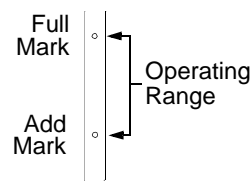
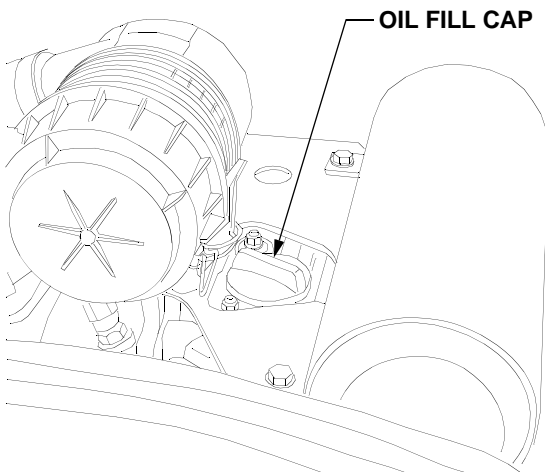

Figure 50
Figure 51
- Always keep the oil level between the full and the add marks on the dipstick. See Figure 50.
- Clean the area around the oil filler cap to prevent debris from entering the crankcase. See Figure 51.
- SLOWLY pour oil into the crankcase until the oil level reaches the “FULL” mark on the dipstick. Refer to Figure 50.
- Remove the dipstick and oil fill cap from the engine. Refer to Figure 50 and Figure 51.